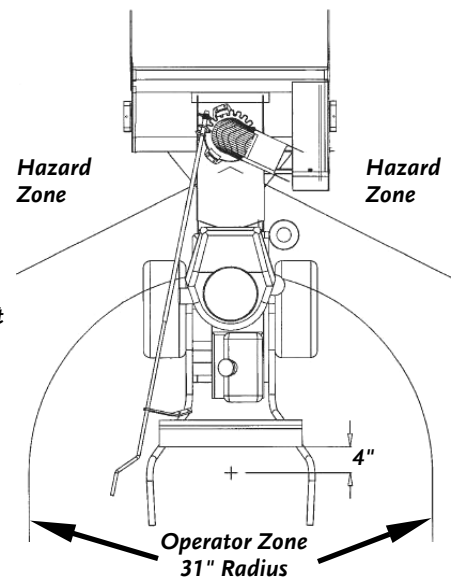

Figure 10
MAKE SURE THE DISCHARGE CHUTE STOPS IN BOTH DIRECTIONS TO PREVENT SNOW FROM DISCHARGING IN THE OPERATOR ZONE (**FIGURE 10**).
15. Only operate the machine from the Operator Zone (see **Figure 10** on page 14).
- **TO AVOID SERIOUS PERSONAL INJURY, DO NOT USE YOUR HANDS OR FEET TO UNCLOG THE DISCHARGE CHUTE! NEVER ATTEMPT TO UNCLOG THE CHUTE WHILE THE ENGINE IS RUNNING. IF THE CHUTE CLOGS, DISENGAGE THE PTO DRIVE, WAIT FOR THE AUGER TO COMPLETELY STOP, APPLY THE PARKING BRAKE, SHUT OFF THE ENGINE, AND REMOVE THE SPARK PLUG WIRE(S) BEFORE UNCLOGGING THE CHUTE. FOR SAFETY, USE A SHORT STICK OR PLASTIC TOOL DESIGNED TO CLEAR SNOW FROM THE CHUTE.**
- **ONLY OPERATE THE SNOW THROWER FROM THE OPERATOR ZONE (FIGURE 10 ON PAGE 14).**